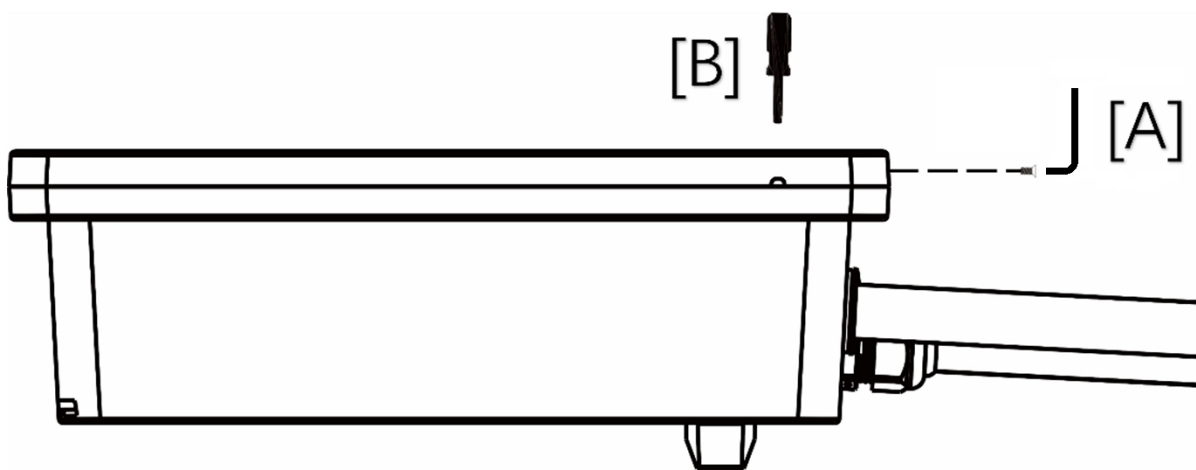
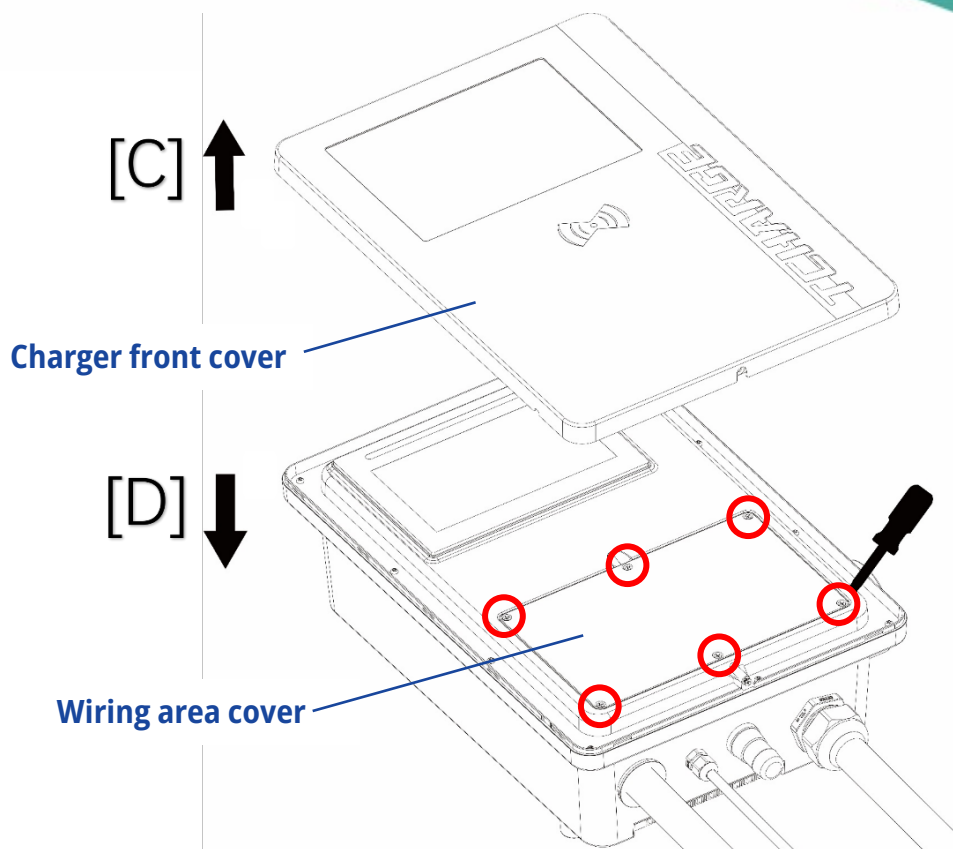

Figure 4.1 Removing the Front Cover of the Charger
Figure 4.2 Removing the Wiring Area Cover of the Charger
- 1) Unfasten the charger's bottom screw with T10 Torx key **provided together with the charger**. (See step [A] in **Figure 4.1**)
- 2) Pry off the front cover of the charger. A flat-head screwdriver is desirable for finishing this job, as a notch can be found on the side of the cover. (See step [B] in **Figure 4.1** and step [C] in **Figure 4.2**)
- 3) Unfasten the six screws (circled in **Figure 4.2**) on the front holding the wiring area cover and remove the wiring area cover.